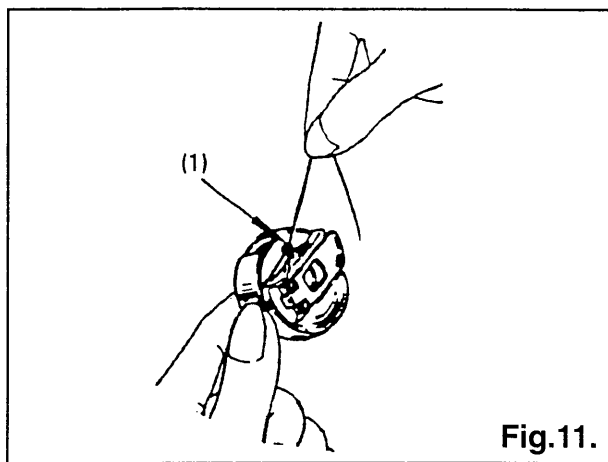

Fig.11.
3. Draw thread out from slot(2) on end of spring (1), (Fig.10) and pass it through bobbin case thread guide (1), Fig.11. Allow about 4 inches of thread to hang freely from bobbin.
NOTE: When straight stitching, a better result can be obtained if bobbin thread is not threaded through bobbin case thread guide (1), Fig.11.